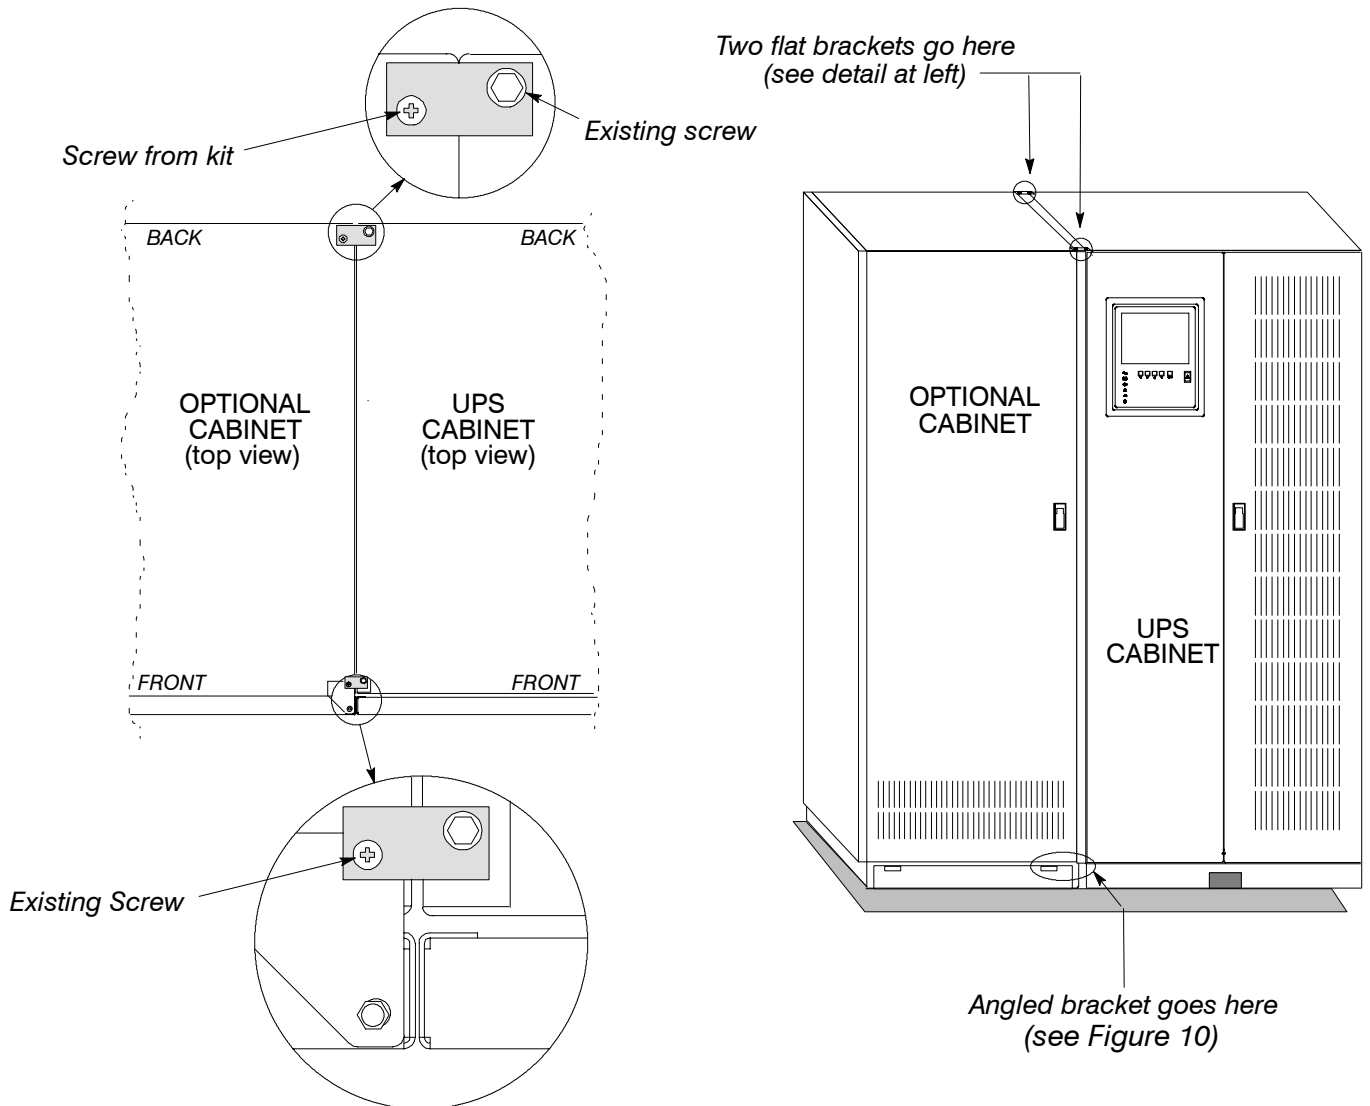
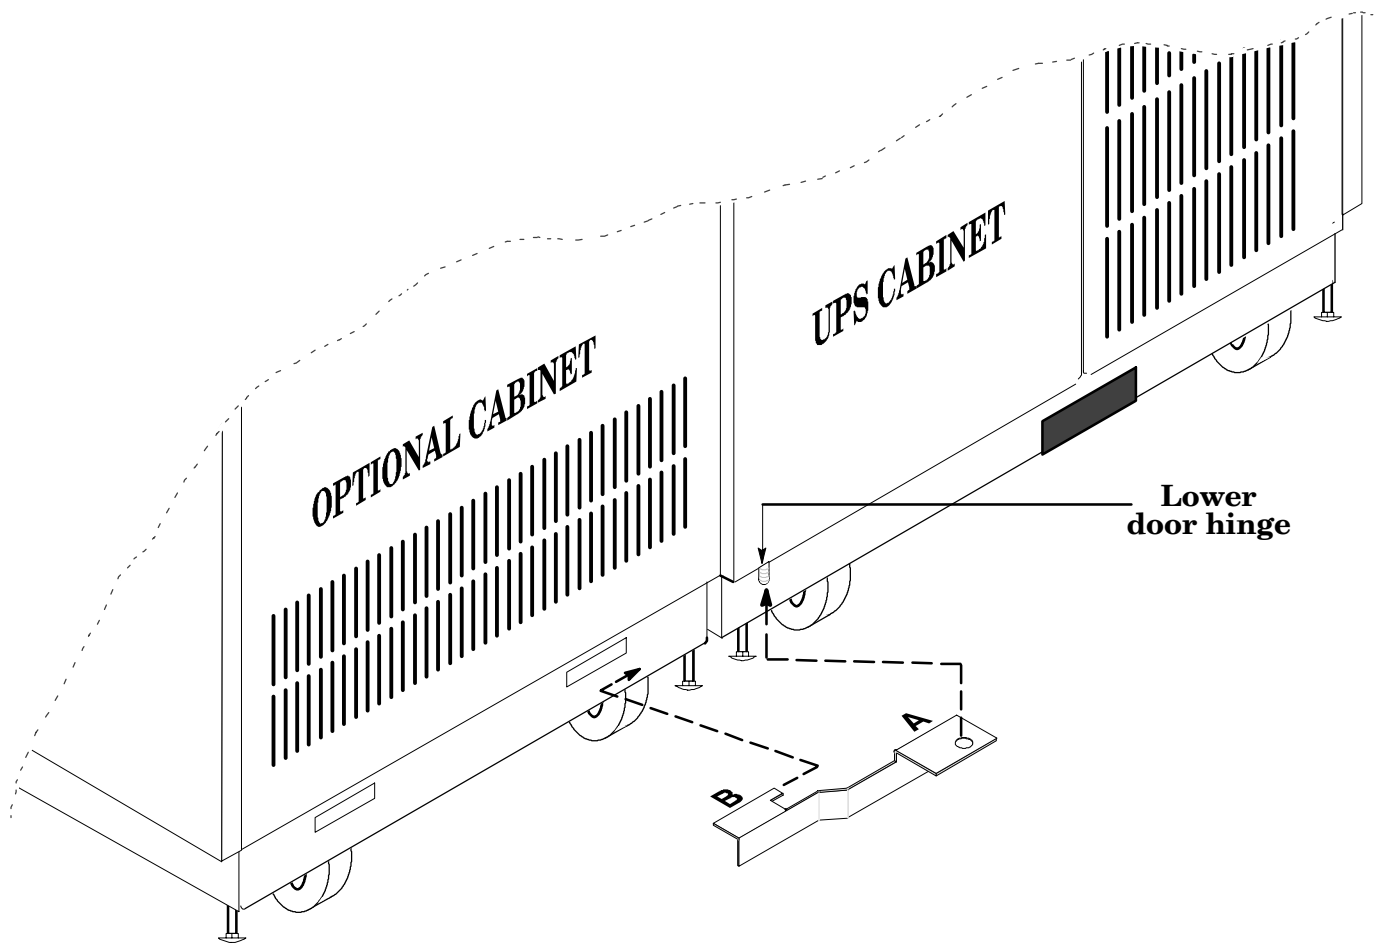

Figure 9. Placement of Joining Brackets
Figure 10. Installing the Angled Bracket
5. Three cabinet joining brackets are provided for securing each cabinet at the top and bottom. Two flat brackets join the tops of the cabinets, one at the front and one at the back. Either an angled bracket or a larger flat bracket connects the cabinets at the bottom. The bottom bracket type is dependent on cabinet configuration. Refer to Figure 9 or Figure 10. Attach the flat brackets to the cabinet tops first.
6. Remove the screw from the top door hinge of the UPS cabinet. Remove the hex head screw from the front hole in the top frame angle on the optional cabinet. Align the small hole in one flat bracket over the screw hole in the cabinet hinge, and the large hole over the hole in the optional cabinet frame. Install the screws (see Figure 9).
9. Hold the angled bracket parallel to the floor (see Figure 10). The flange with the hole in it (labeled **A** in Figure 10) should be facing upward. The flange with the tab (labeled **B** in Figure 10) should be pointing toward the slot in the base of the optional cabinet.